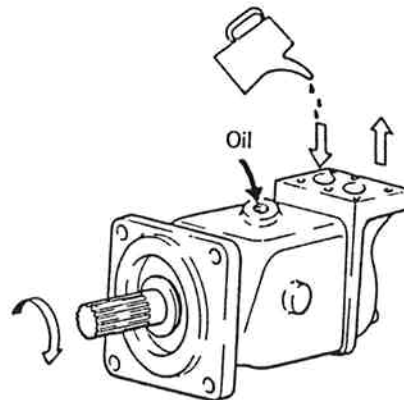

Fig.9 Supply of Hydraulic Oil
- 11) Insert brake piston (36) into valve cover (14). Insert brake spring (39) into brake piston (36), and install brake cover (35) on valve cover (14) with capscrews (19).
- 12) Now, assembly of the motor is completed. Supply clean hydraulic oil to the suction port and piston shoe side, and confirm that the drive shaft is turned smoothly by hand (see Figure 9).